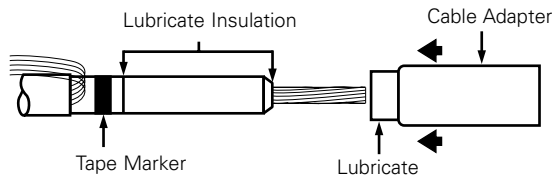

Figure 9. Line illustration of insulation cable adapter.
- Slide small end of cable adapter over cable using twisting motion until small end is flush with tape marker. (Refer to Figure 9.)